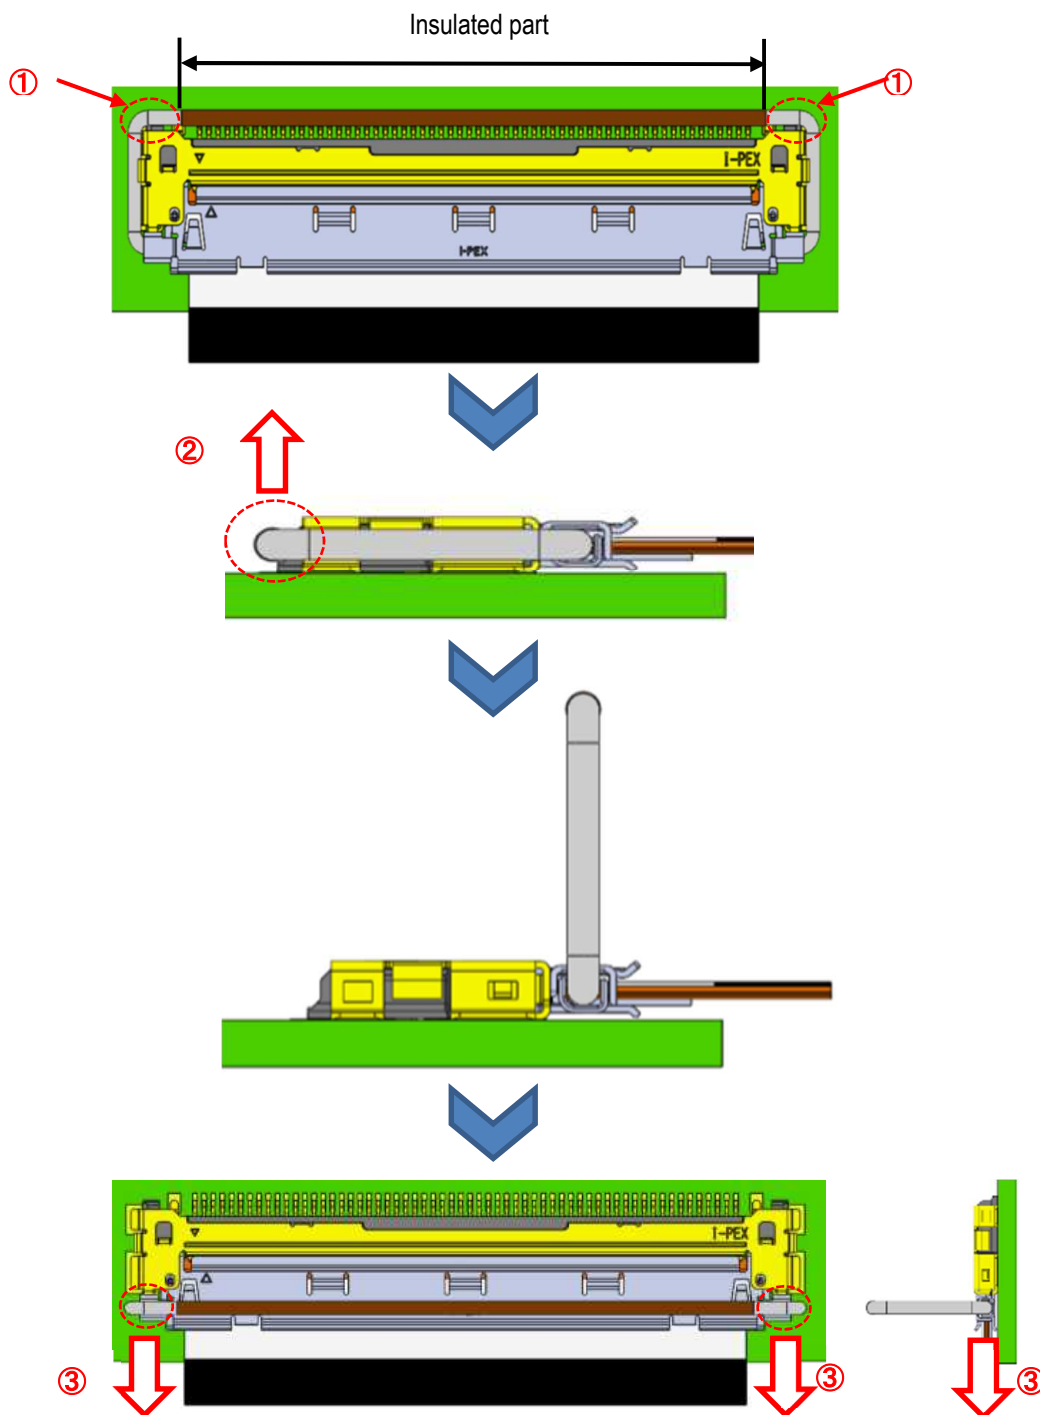

Fig. 17 Pulling lock bar to unmate connectors
Select one end of the lock bar circled in ① in figure 17. Push up the selected side of the lock bar to release the lock. Rotate the lock bar until it is vertical. Pull the lock bar circled in ③ horizontally against PCB until the connectors are unmated. [Fig. 17]